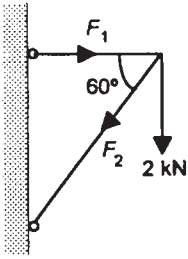

Figure 2.35 Problem 6
- 6 Determine the forces F_1 and F_2 in the jib shown in Figure 2.35.